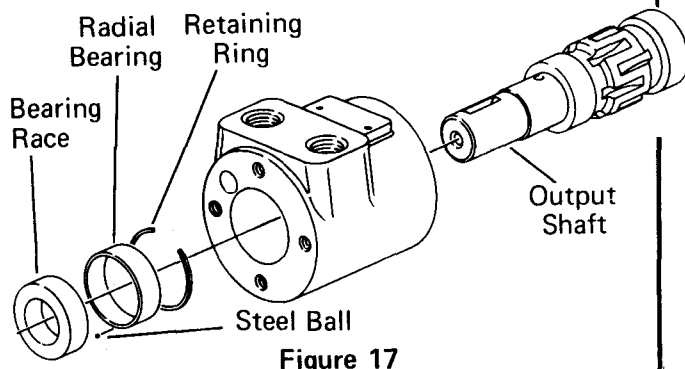

Figure 17
**26** Install retaining ring in groove of housing, see Fig. 17.